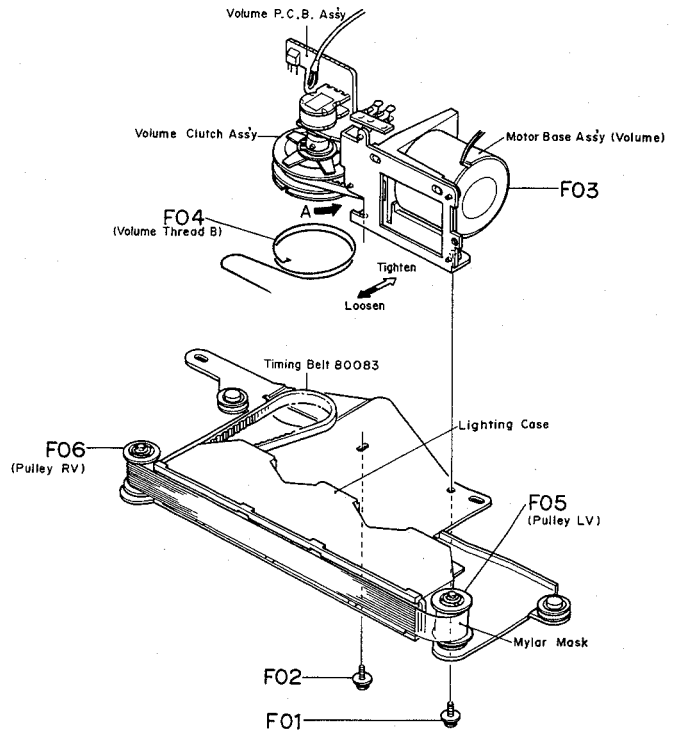
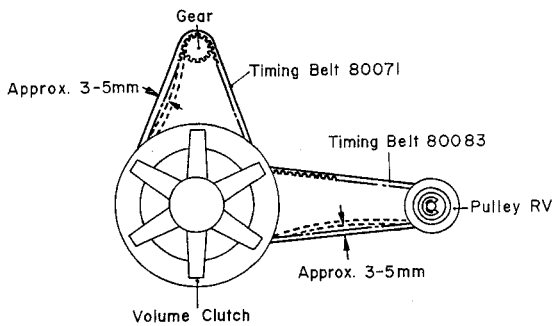

Fig. 5.2.3
Fig. 5.2.9
- (1) Remove the Front Panel Ass'y, referring to item 3.3, removal of Front Panel Ass'y.
- (2) Remove the Volume Control Ass'y, referring to item 3.10.
- (3) Remove F01 and F02 shown in Fig. 5.2.3, and detach the Motor Base Ass'y (Volume) F03.
- (4) Referring to Fig. 5.2.3, turn the Volume Clutch manually in direction A until it stops.
(8) Refer to Figs. 5.2.3 and 5.2.9. Loop the Timing Belt 80083 around the Volume Clutch of the Motor Base Ass'y (Volume), and assemble it with Volume Control Base Ass'y by screws F01 and F02.
Adjust the tension of the Timing Belt 80083 by loosening F01 and F02 of Fig. 5.2.3. And make sure that the tension is such that it can be depressed by 3 – 5 mm when it is lightly pushed with the finger as shown in Fig. 5.2.9.
(9) Refer to Figs. 5.2.9 and 5.2.10. Adjust the tension of the Timing Belt 80071 between the Volume Clutch and the Motor Gear, so that it is depressed by 3 – 5 mm when it is lightly pushed with the finger as shown in Fig. 5.2.9.